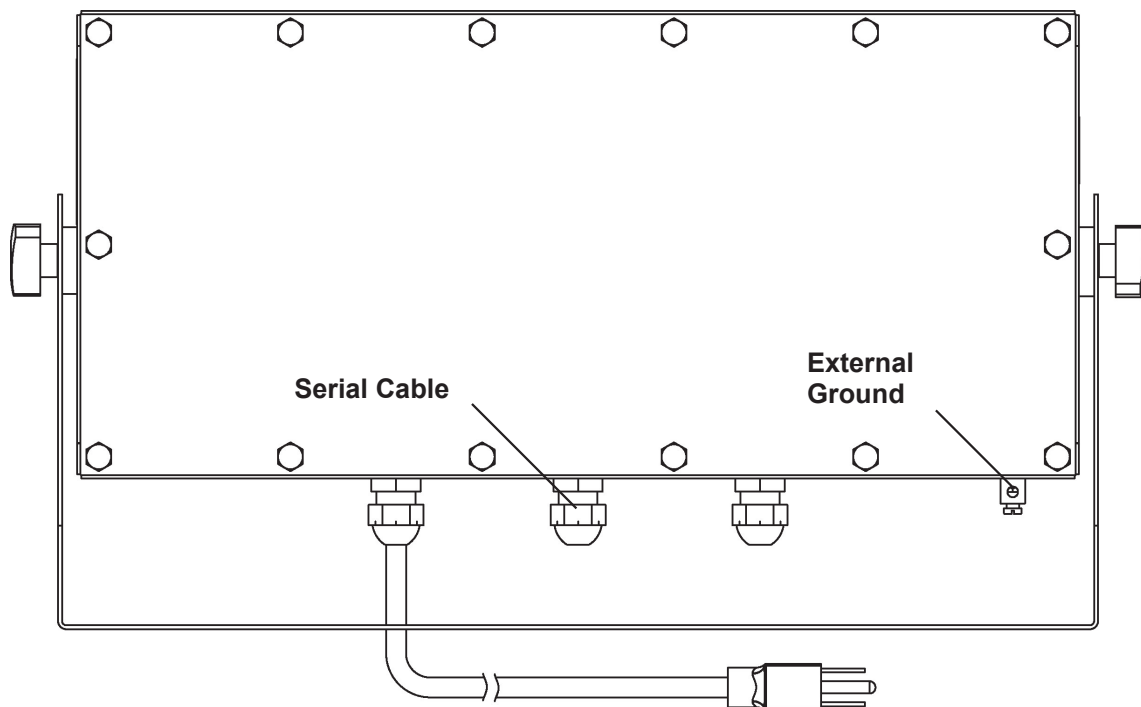

Figure No. 2
1. Referring to Figure No. 2 on the previous page, remove the 14 acorn nuts securing the rear panel to the main housing.